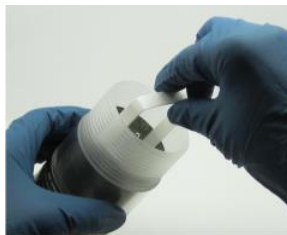

Figure 3
1.2. Remove indicator retainer (Figure 3) 4
1.2. Remove indicator retainer (Figure 3)